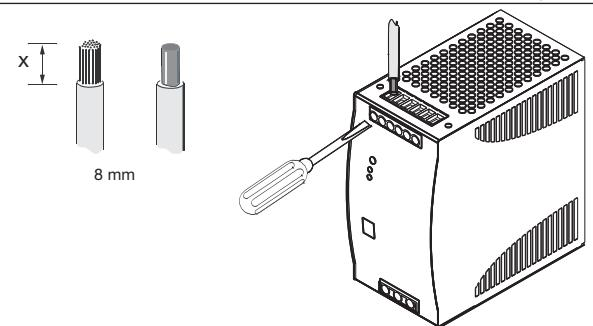

Fig.3
- Data for permitted loads, cable cross-sections and stripping: see enclosed leaflet "Technical Data" (See Fig. 3).